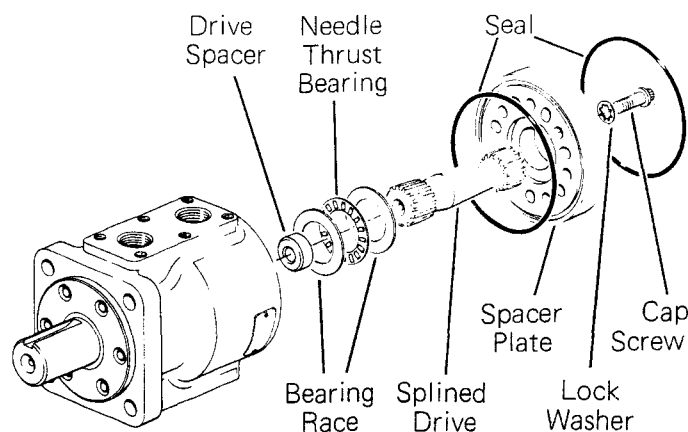

Figure 4
8 Remove seal from Geroler side of spacer plate, see Fig. 4.
- 12 Remove 2 bearing races and the needle thrust bearing from spacer plate, see Fig. 4.